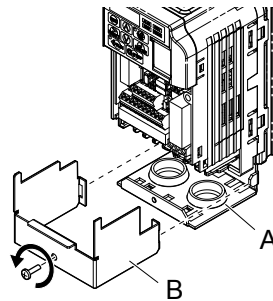

Figure 8.12 Remove the Terminal Cover
2. Loosen the screw on the terminal cover (**Figure 8.12, B**) to remove the terminal cover and expose the conduit bracket (**Figure 8.12, A**).